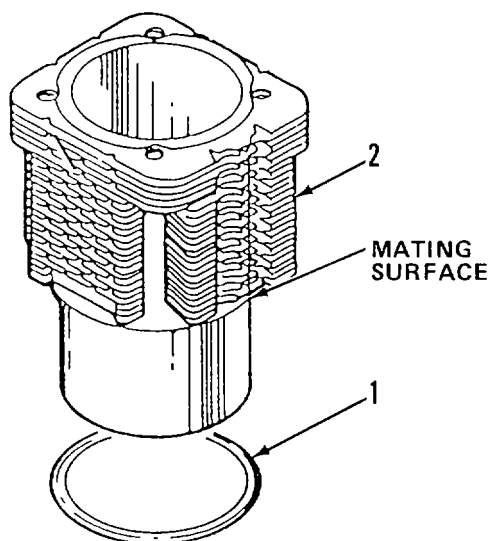

Figure 4-6. Cylinder Liner
a. REMOVE. (Figure 4-6)
- (1) Set piston at Bottom Dead Center (BDC).
- (2) Rotate crankshaft until piston lift cylinder out of crankcase.
- (3) Slide cylinder off piston.
- c. INSTALL. (Figure 4-6)